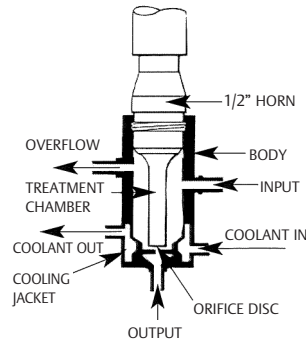

Figure 1
3. Clamp the continuous flow attachment to a suitable stand and use appropriate input/output connectors (with 0.25” ID [6.35 mm] hose), as shown in Figures 1, 2, and 3.